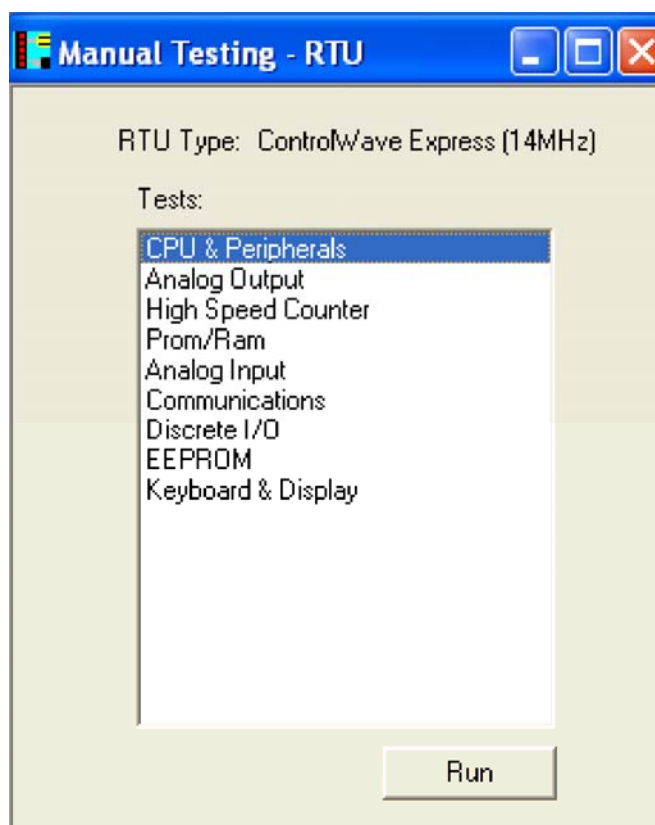

Figure 5-9. WINDIAG Main Diagnostics Menu
2. Select **Start >Programs > OpenBSI Tools >Common Tools >Diagnostics**. The Main Diagnostics menu (*Figure 5-9*) opens.
WINDIAG's Main Diagnostics Menu (see *Figure 5-9*) provides the following diagnostic selections: